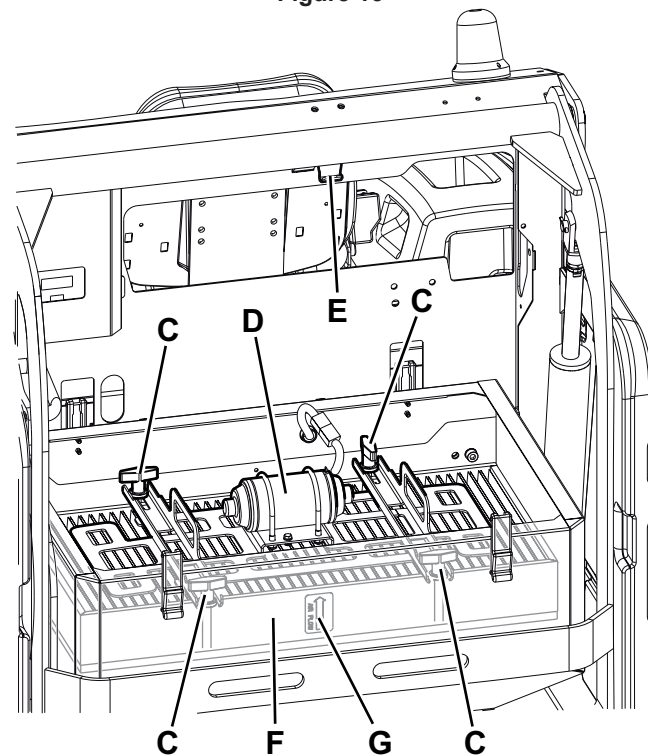

Figure 14
5. Unscrew the knobs (C, Fig. 14) and remove the filter shaker assembly (D).
6. Fasten the filter shaker assembly to the holder (E).
7. Lift the dust filter (F) and remove it from the machine.
- Install the filter with the strainer facing upwards (arrow (G, Fig. 14) upwards).